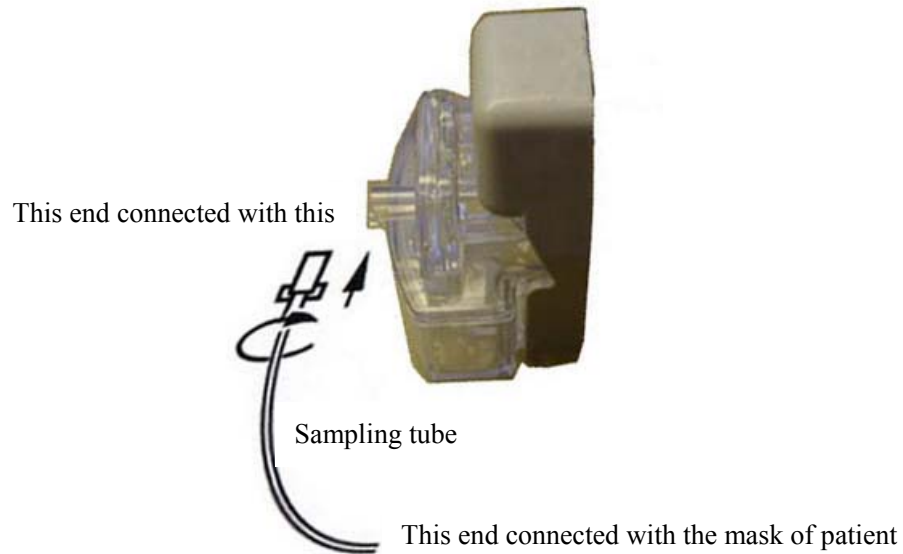

Fig. 5-7-3 Connected with dehydration flask
- According to the Fig. 5-7-3, one end of the sampling tube has been connected with screw thread interface of the dehydration flask, and the other end of the sampling tube has been connected with the screw thread interface tube ( $\Phi 10\text{mm}$ ) of the patient Anaesthesia machine or Ventilator (If not the type screw thread interface tube, please connect the requirement type tube) the sampling tube's port can also been fixed on the naris of patient with adhesive plaster.